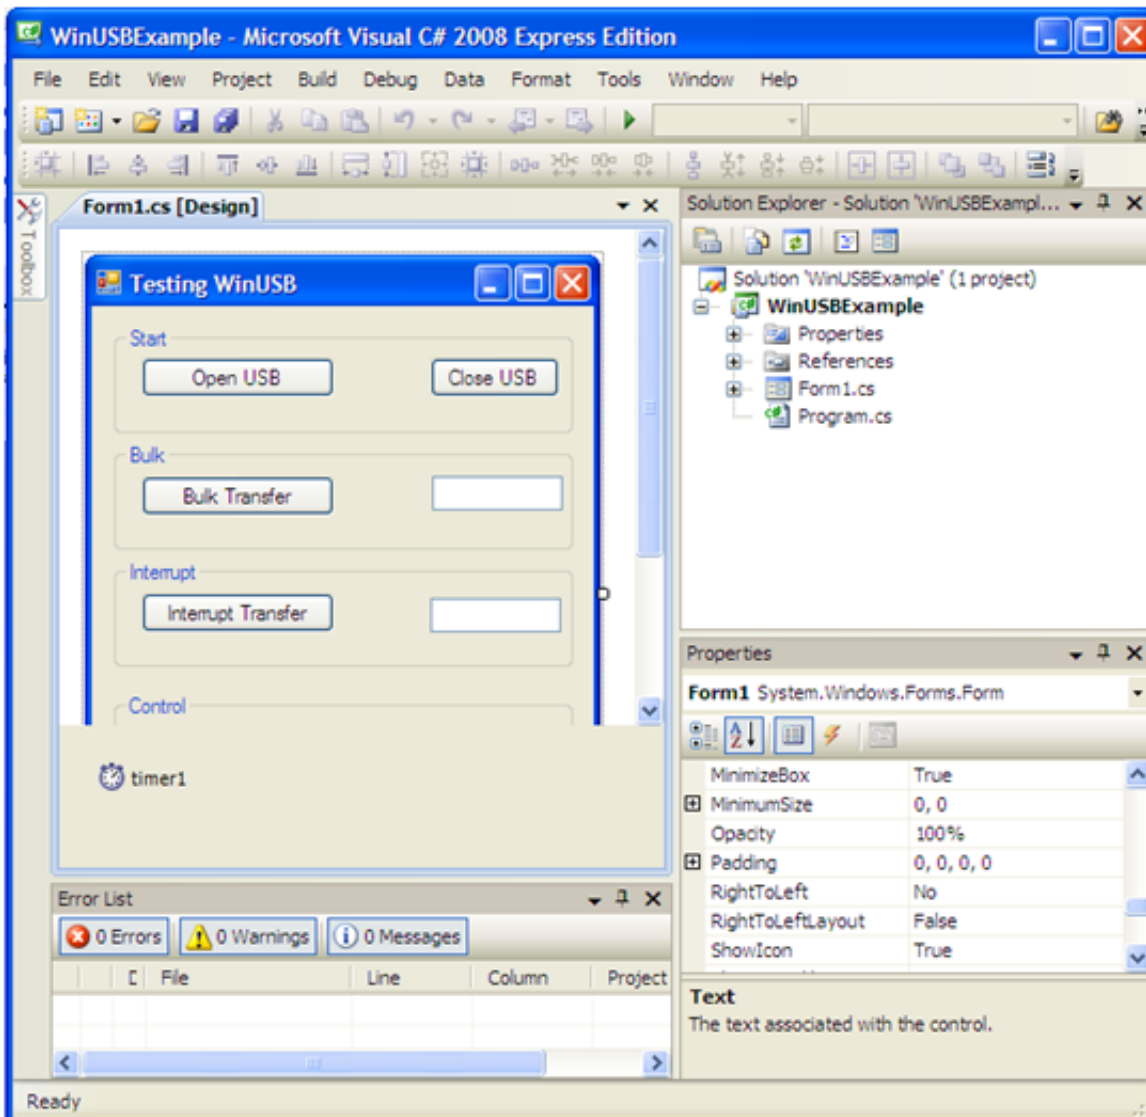

Figure 9. C# project source code
1. Go to “WinUSBExample in C:\WinUSBExample\WinUSBExample.sln” from AN4378SW.zip. Open it with VSC#2008. WinUSBExample project is shown in Figure 9.